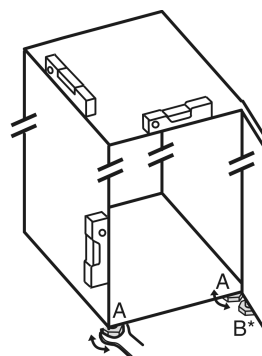

Fig. 4
- ▶ Unscrew the adjustable feet Fig. 4 (A) using the enclosed open-end spanner and a spirit level until the appliance is firmly aligned and level.
- Unscrew the adjustable foot *Fig. 4 (B)* on the swap bearing block with the enclosed open-end spanner until it rests on the floor.
- Turn the adjustable foot *Fig. 4 (B)* 90° further.